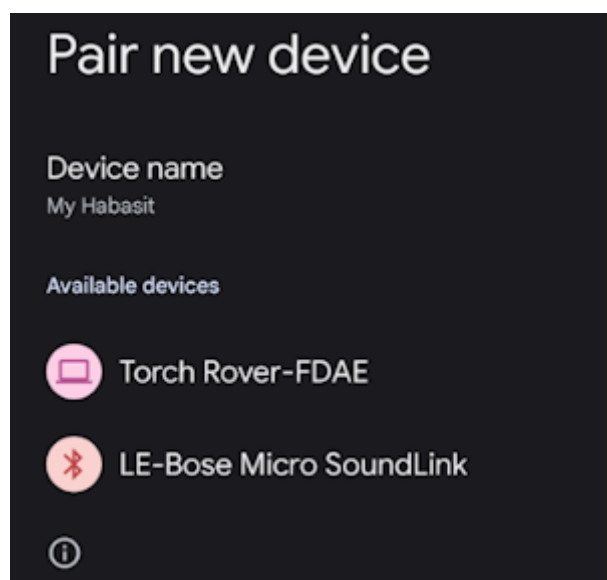

Figure 4
4. From your cell phone, open Bluetooth settings and pair it with a new device. You will see a list of available Bluetooth devices. Select the 'Torch Rover-3AF1'. The '3AF1' is the last four digits of the device's MAC address and will vary depending on the device (Figure 4).